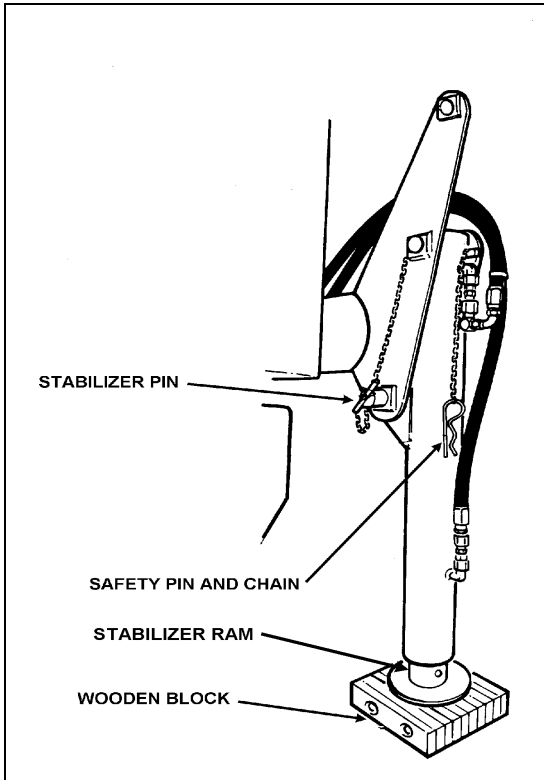

Fig 6-2-16 Positioning The Stabilizer
- (1) apply the truck service brakes,
- (2) start the truck engine,
- (3) place the transmission range selector lever in any one of the drive ranges to stop the transmission PTO gear. To prevent damage to the PTO and transmission gears, do not attempt to engage the PTO when the transmission range selector lever is in "N" (neutral).
- (4) pull out the PTO control knob to engage the PTO. The PTO indicator lamp will light when the PTO is engaged. If the PTO knob does not come out to its fully engaged position, push the PTO control knob in and ease off the service brakes enough to allow the truck to move slightly. Apply the service brakes and pull out the PTO control knob to the fully engaged position,
- (5) place the transmission range selector in **N** (neutral),
- (6) apply the hand brake and temporary electric park brake, and
- (7) move the automatic throttle switch to **ON**
- c. warn nearby personnel to stay clear of the stabilizer before extending it, remove the stabilizer pin, and swing the stabilizer downward into position. Secure the stabilizer with the stabilizer pin and safety pin and chain (Fig 6-2-16);